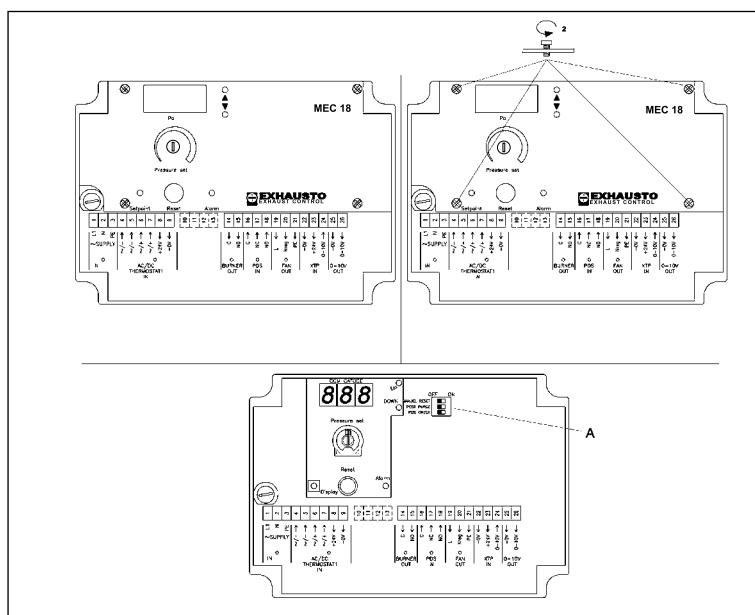

Fig. 13
- If the factory setting must be changed, remove the black cover plate to gain access to the dipswitches (see Fig 13-A):
2. Remove the (4) flathead screws and lift the top plate off the board.
The display (Fig. 13-C) has two functions. It shows what the pressure set-point is, and it shows what the actual pressure is.